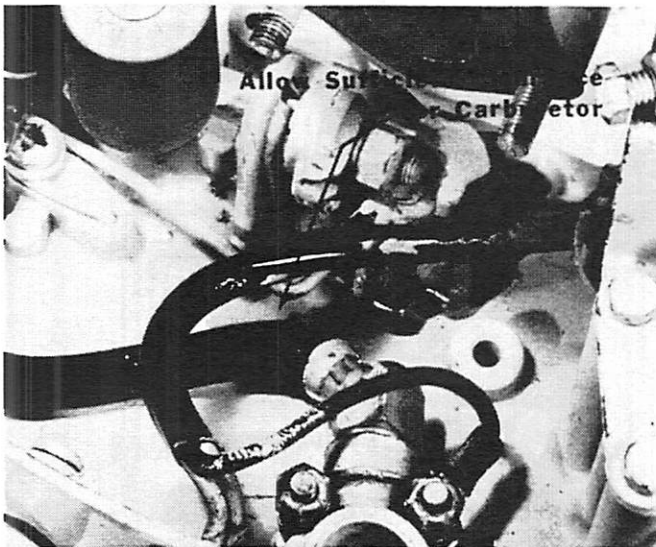

Figure 17. Stop Switch Ground Lead Attached
5. Install check unit adaptor in bottom cowl and secure with 2 screws. Be sure that stop switch ground lead is attached. (Figure 17)